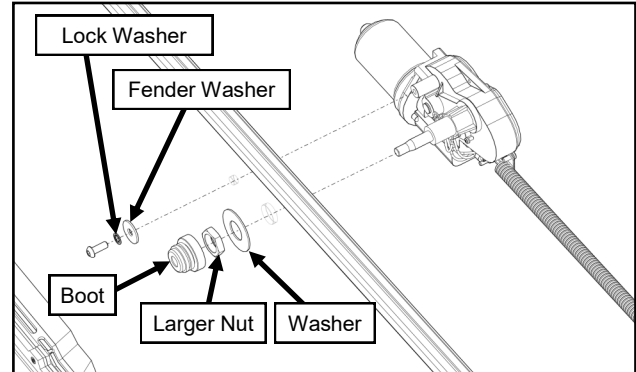

Fig. 1.9 (Install Wiper Motor onto Installed Windshield)
- 1.9** Per figure 1.9, install wiper motor to the top center part of the installed windshield using much of the hardware provided in the wiper hardware mounting kit.